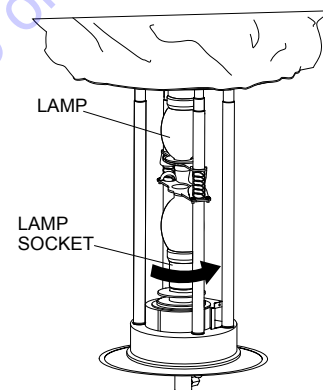

Figure 25. Removing Lamp
4. Remove lamp from the lamp socket by turning lamp counterclockwise. See Figure 25.